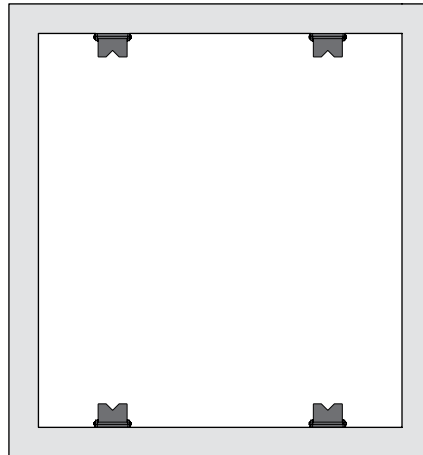

Fig. A1.03
- Use of the Folding Bracket 25 only with closed shafts. (Fig. A1.03)